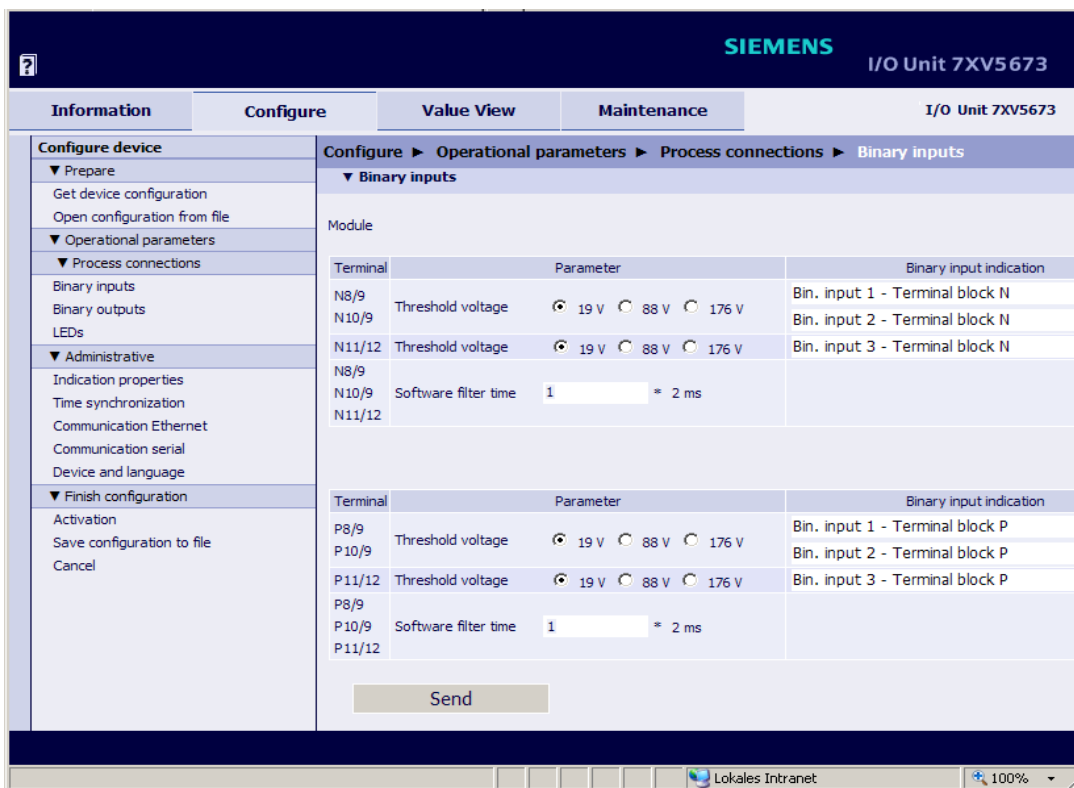

Figure 6-65 Settings of the 6 Binary Inputs
- ✧ Parameterize the threshold value voltages of the binary inputs according to Figure 6-65.